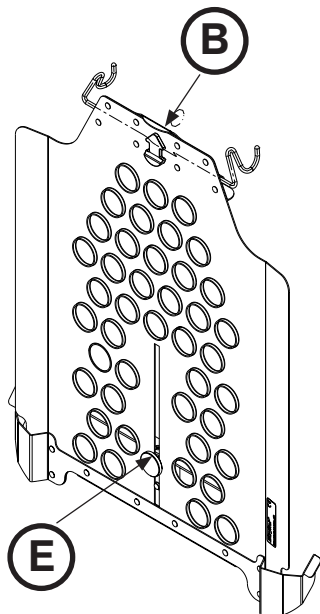
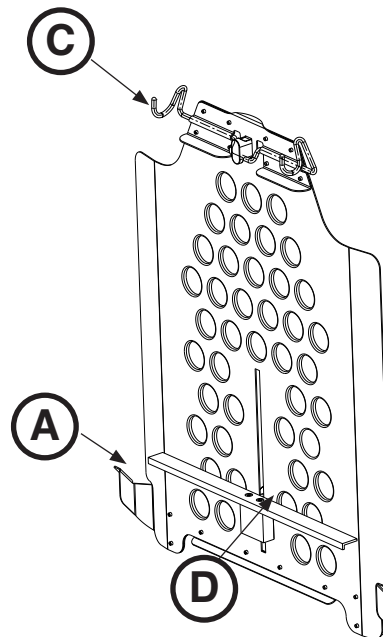

Figure 54: Upright X-Ray Cassette Holder
Figure 55: Upright X-Ray Cassette Holder
2. Position the upright cassette holder, placing the lower retainer guides (A) under the fowler weldment bar (Figure 54).
4. Insert and remove cassettes from the upright cassette holder from either side of the cassette holder or pull up on the yellow arrow to release the wire latch (B) on the upright cassette holder, releasing the upright cassette holder from the fowler weldment, and then position the cassette in the holder.
5. Loosen the knob (E) on the back side of the upright cassette holder and adjust the cassette support rail (D) to position the cassette in the desired location (Figure 55). Tighten the knob to secure the cassette support rail in place.
1. With the fowler raised, pull up on the yellow arrow (B) to release the wire latch (C) on the upright cassette holder from the fowler weldment bar (Figure 54).
2. Lift up on the upright cassette holder to release the lower retainer guides (A) on the upright cassette holder from the fowler weldment bar (Figure 55).